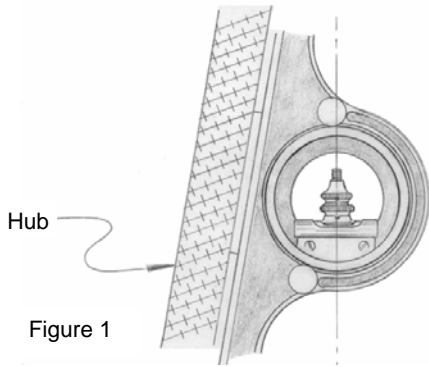

Figure 1
1. Place the protractor flat against the hub face or hub bushing as shown in Figure 1.